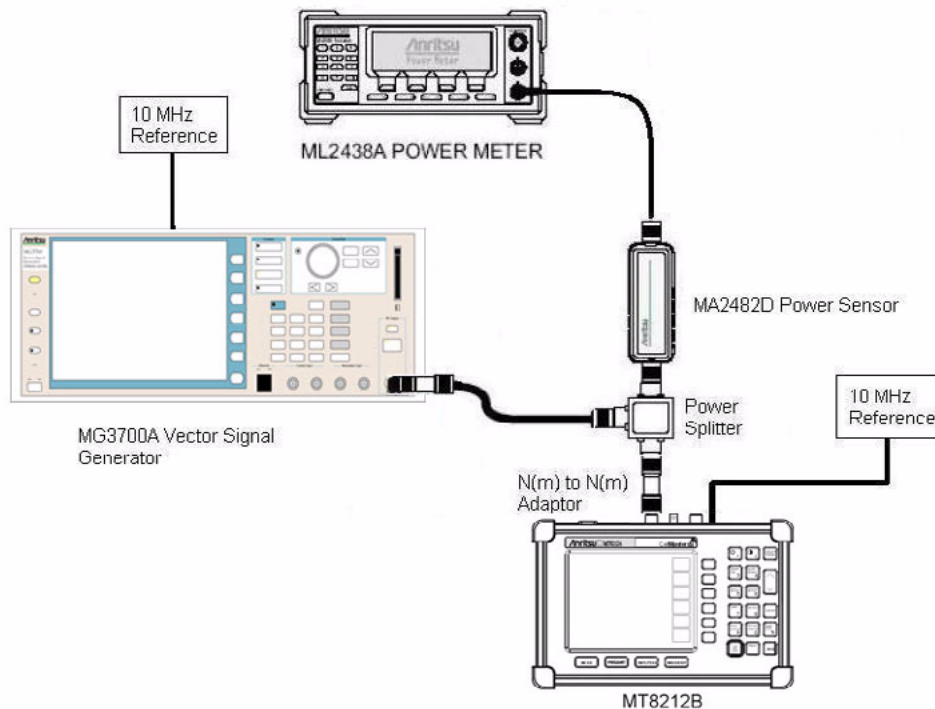

Figure 3-10. iDEN Signal Analyzer Setup
1. Connect the equipment as shown in Figure 3-10. Ensure that the external 10 MHz reference is connected to both the 10 MHz Ref input of the MG3700A and the Ext Freq Ref input of the MT8212B.